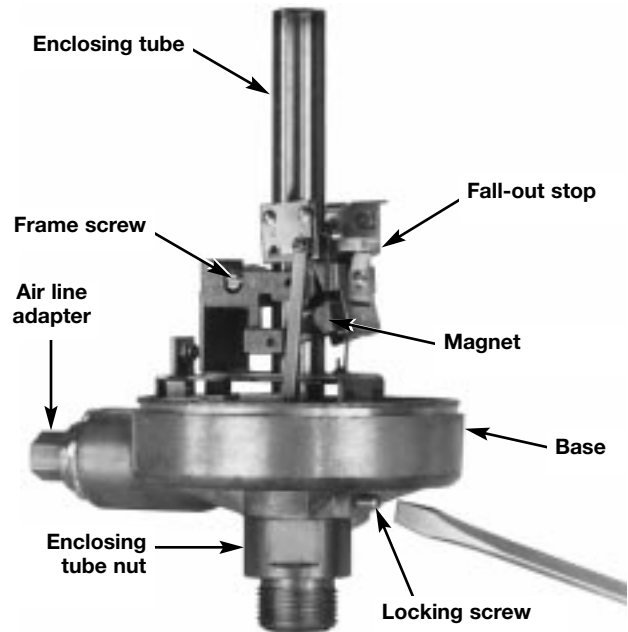

Figure 5
1. Loosen both the special locking screw above the enclosing tube nut and the frame screw. Refer to Figure 5.
2. Loosen both the special locking screw, above the enclosing tube nut, and the frame screw, approximately 3 to 4 turns. Refer to Figure 5.
- A. Hold the magnet against the fall out stop. Refer to Figure 5.